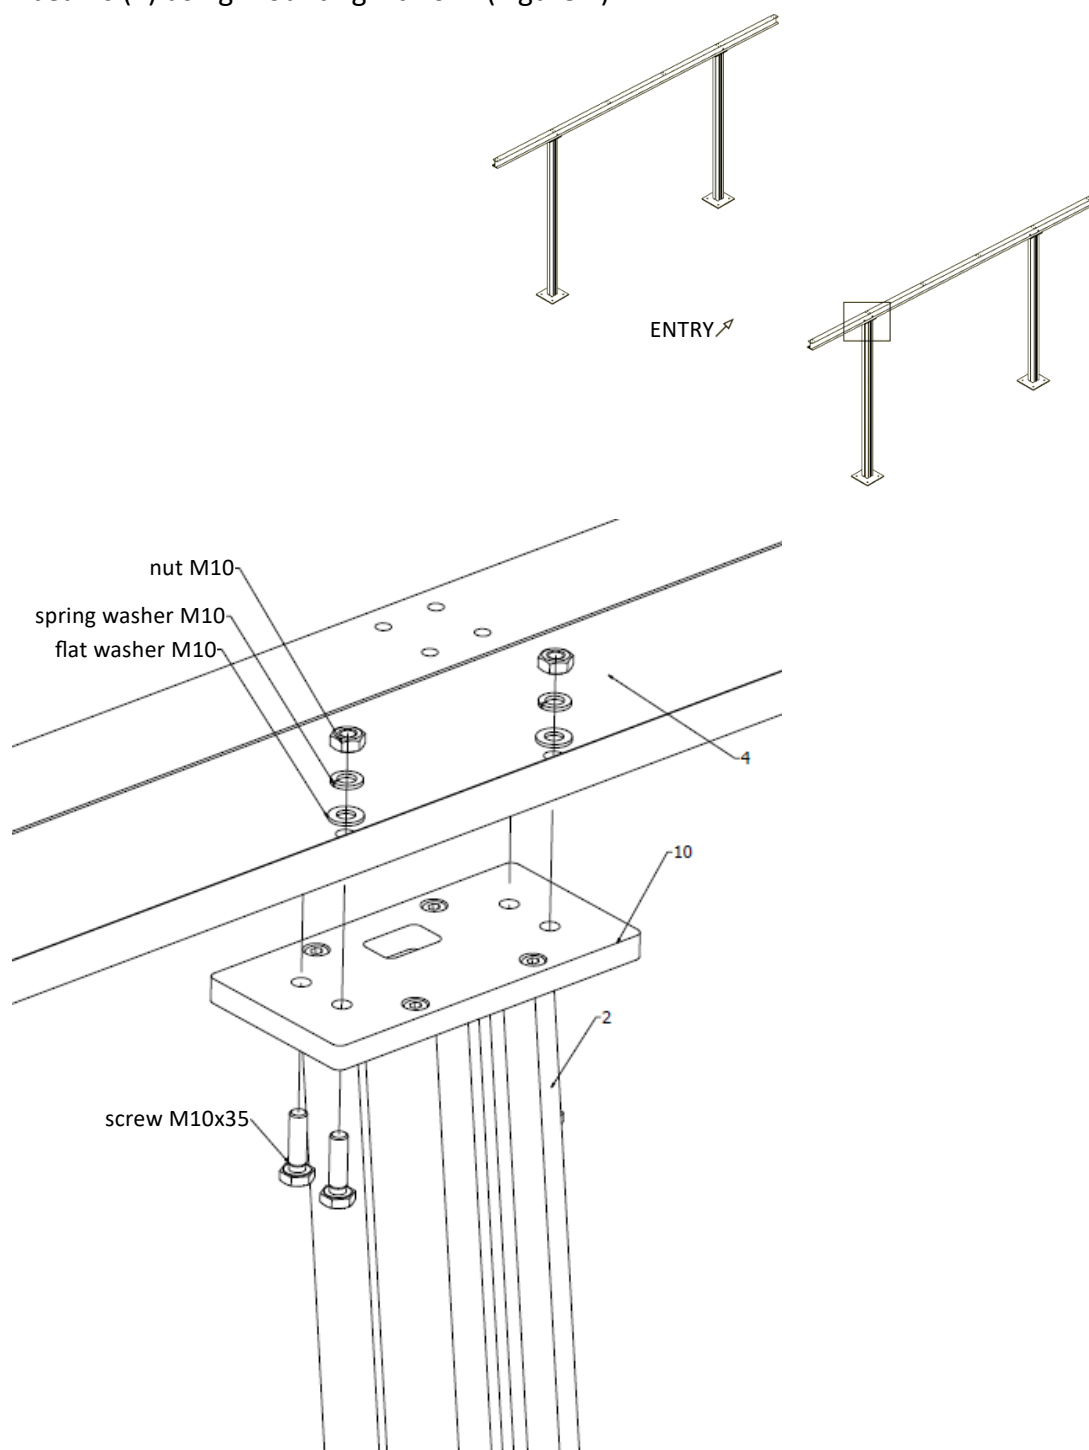

Figure 7. How to mount the main beam
- It should be remembered that the column connectors (10) are located relative to the slope.
- Attach both main beams (4) using mounting kit no. 4 (Figure 7).